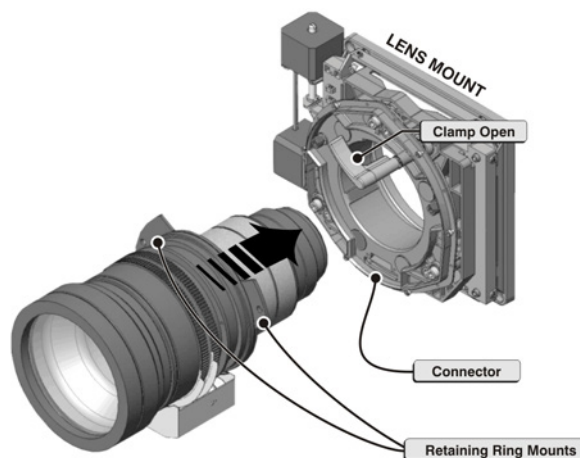

Figure 6-7 Install Lens
8. Align the mounts on the lens connector with the lens mount. Insert the lens until it connects with the magnets on the mount. Once the lens makes contact with the magnetic plates it will be seated correctly and the connector for motorized zoom and focus will be properly connected (**Figure 6-7**).